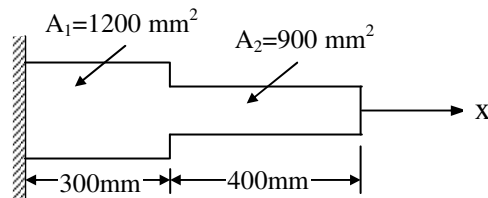

Fig. 6
8. a). Consider axial vibration of the steel bar shown in Fig.6, (i) develop the global stiffness and mass matrices and (ii) determine the natural frequencies and mode shapes using the characteristic polynomial technique.